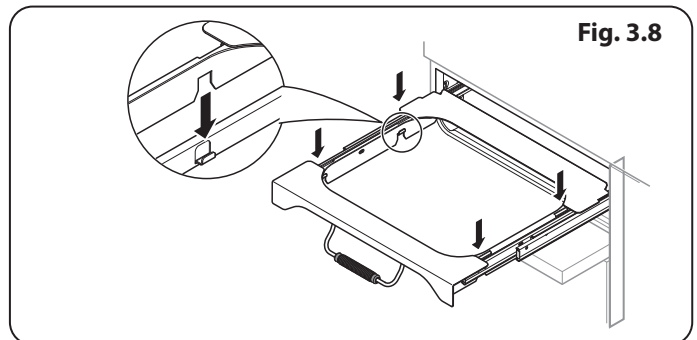

Fig. 3.8
5. Once you have finished, hook the side rails back onto the sides of the chamber. Pull the telescopic rails out and fit the broiler tray onto them, making sure to locate the cut-outs onto the telescopic runner tabs (**Fig. 3.8**).